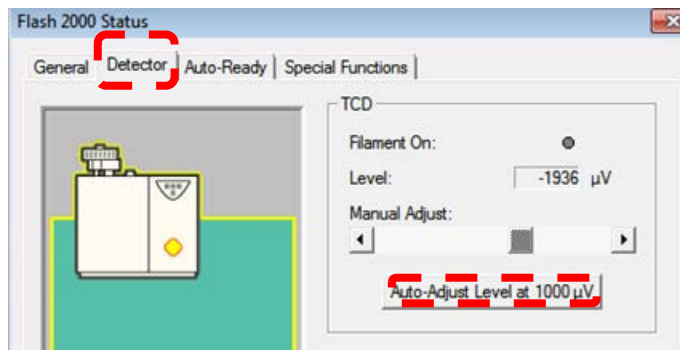

Fig.9 Auto-adjust the detector level
3.1.14 Click , select the option **Detector**. In the section **TCD**, click the button **Auto-adjust level at 1000 μ V** (fig.9).